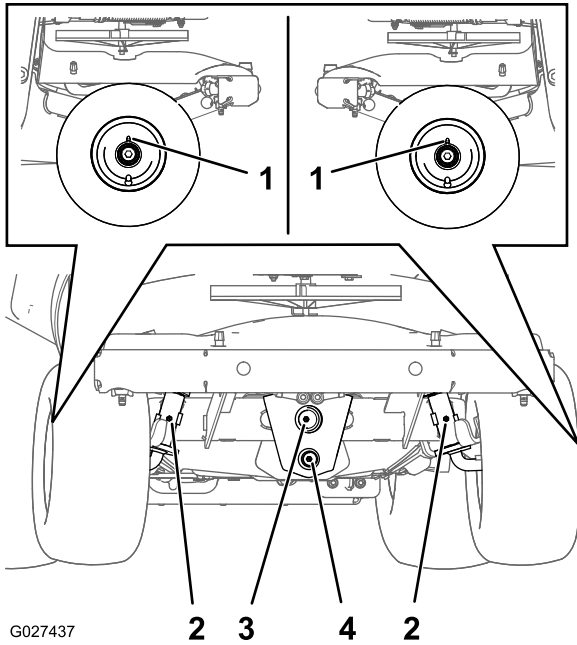

Figure 57
2. Wipe the grease fittings clean with a rag (Figure 57).
3. Connect a grease gun to the fittings (Figure 57).